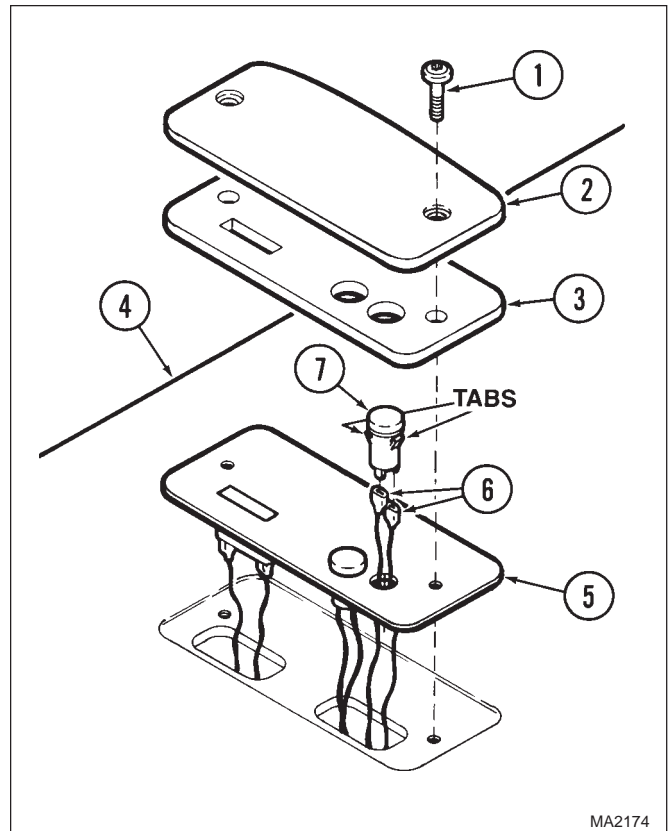

Figure 4-51. POWER ON Lamp Removal / Installation
- (1) Disconnect electrical power from surgery table.
- (2) Remove two bolts (1, Figure 4-51), name plate (2), and light gasket (3) from base casting (4).
- (3) Partially separate light bracket (5) from base casting (4).
- (4) Disconnect two wires (6) from green POWER ON lamp (7).
- (5) Press on two tabs of POWER ON lamp (7), while simultaneously pulling the POWER ON lamp out of light bracket (5).